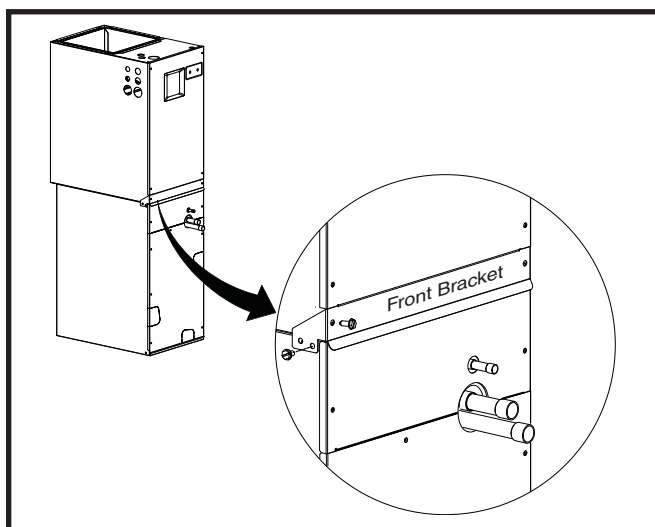

Figure 3. Front Bracket Installation - (Upflow Only)
4. Attach the front joining bracket to the front of the modular unit. Align the screw holes in the bracket with the holes from the lower front bracket and the top panel of the coil case. See Figure 3.